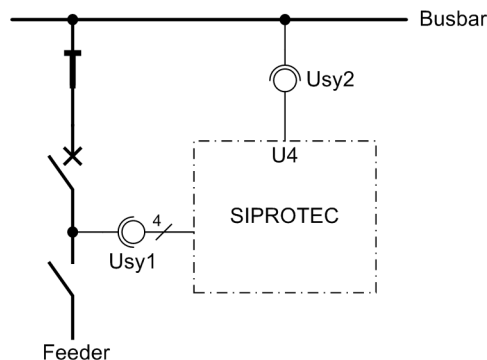

Figure 3-25 Measuring voltages for the synchronism check
- Then the circuit breaker is closed while the line isolator is open (see figure 3-25). Both voltage transformers thus obtain the same voltage.